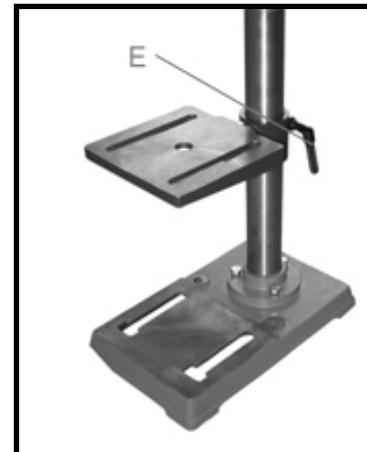

Fig. 6
3. Thread stud on clamp handle (E) Fig. 6, into hole in rear of table bracket as shown.